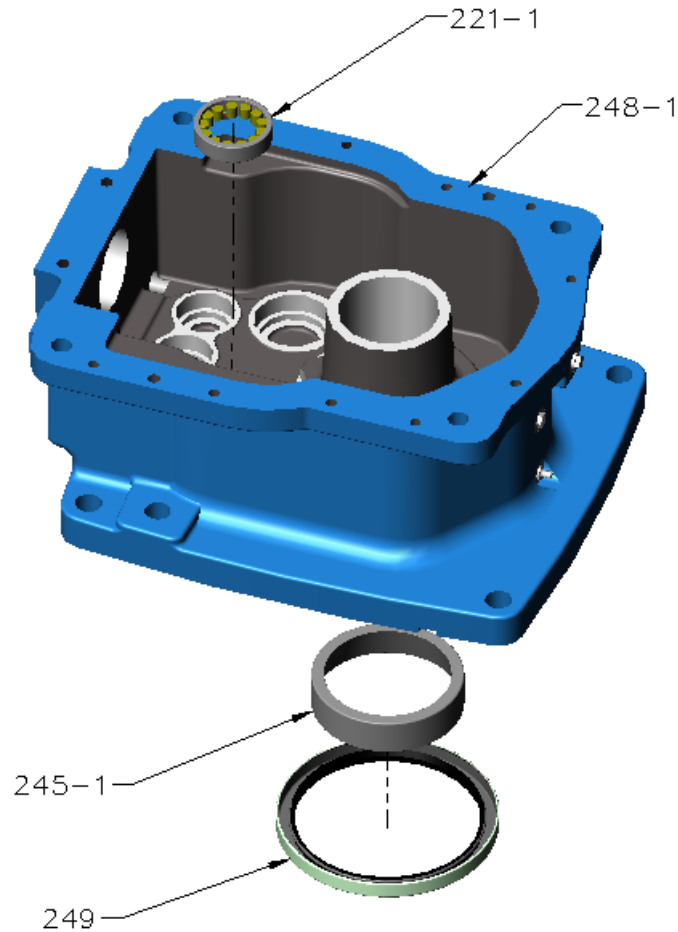

Figure 15 – Bottom Case
- B. At case bottom **[248-1]**, install following items (refer Figure 15):